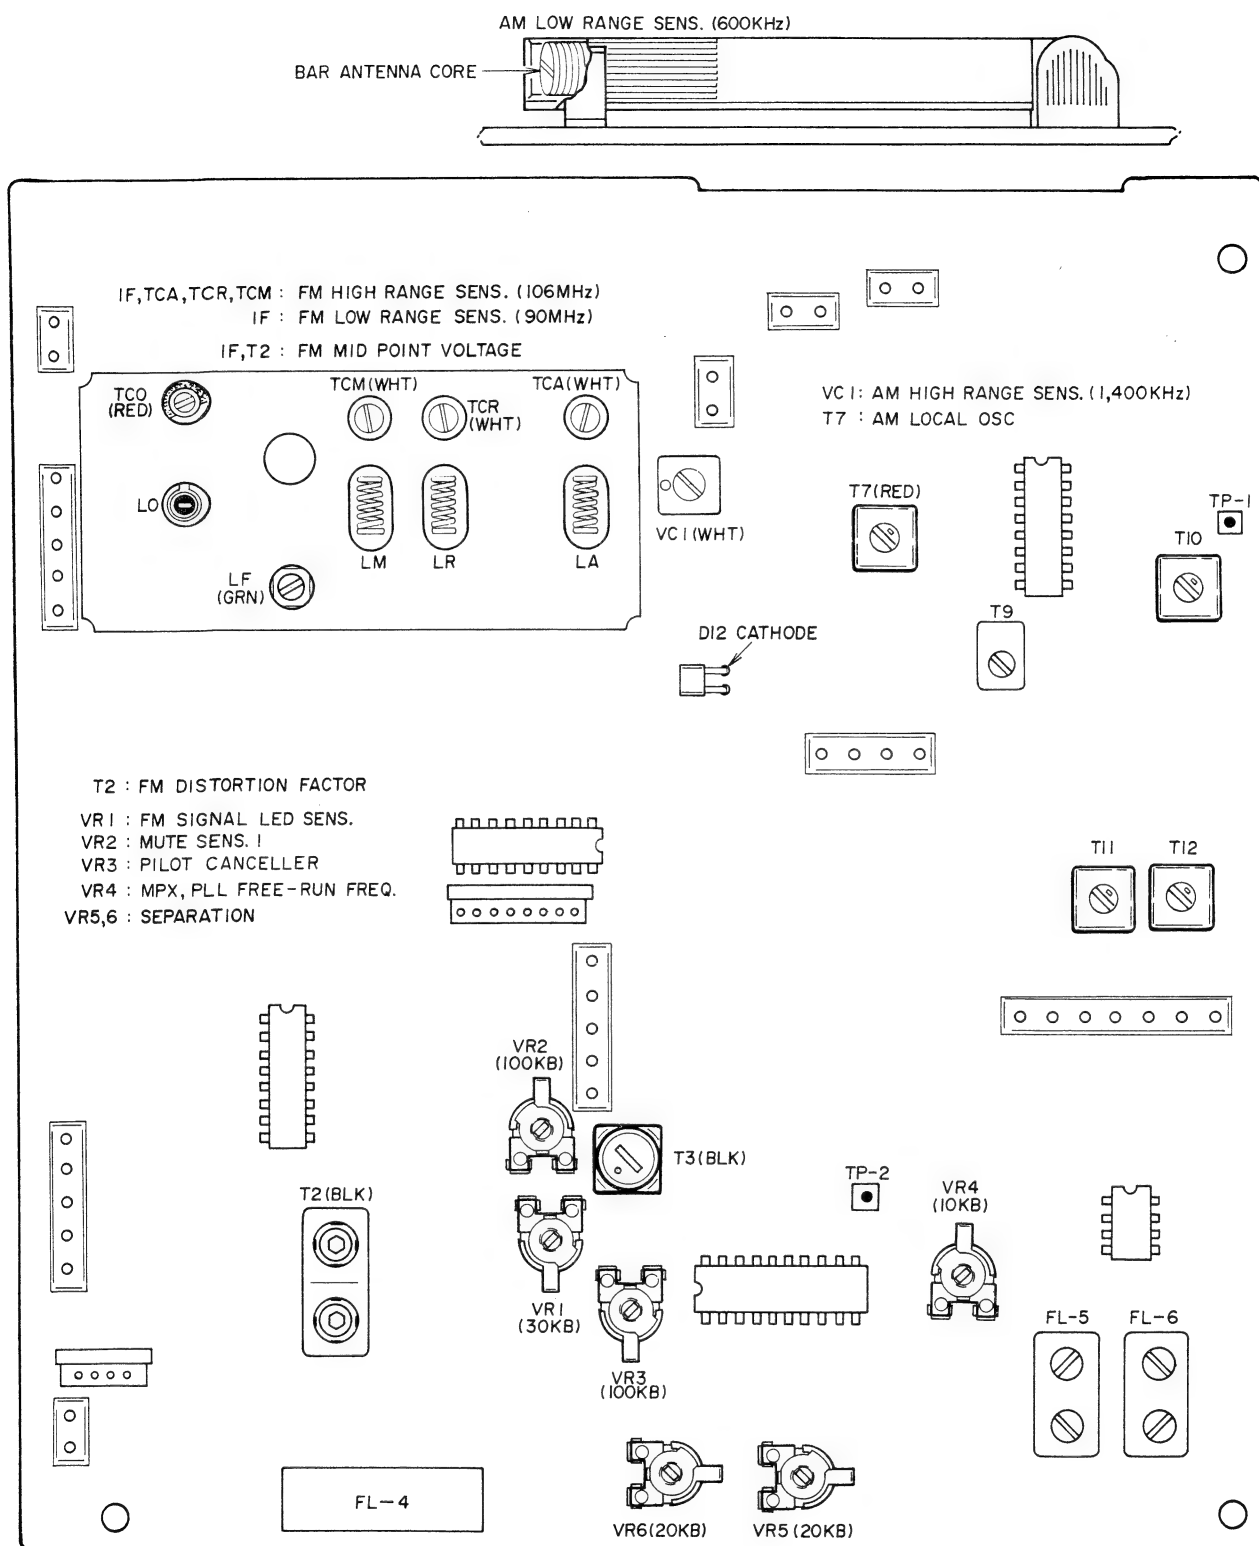

Fig. 5 Tuner P.C Board ATV-4001A (AT-V04)
1. SYNTHESIZER SECTION ADJUSTMENT (Refer to Figs. 5, 7 and 8)
2. AM (MW AT-K04L) SECTION ADJUSTMENT (Refer to Figs. 5 to 8)
4. FM SECTION ADJUSTMENT (Refer to Figs. 5, 7 and 8)